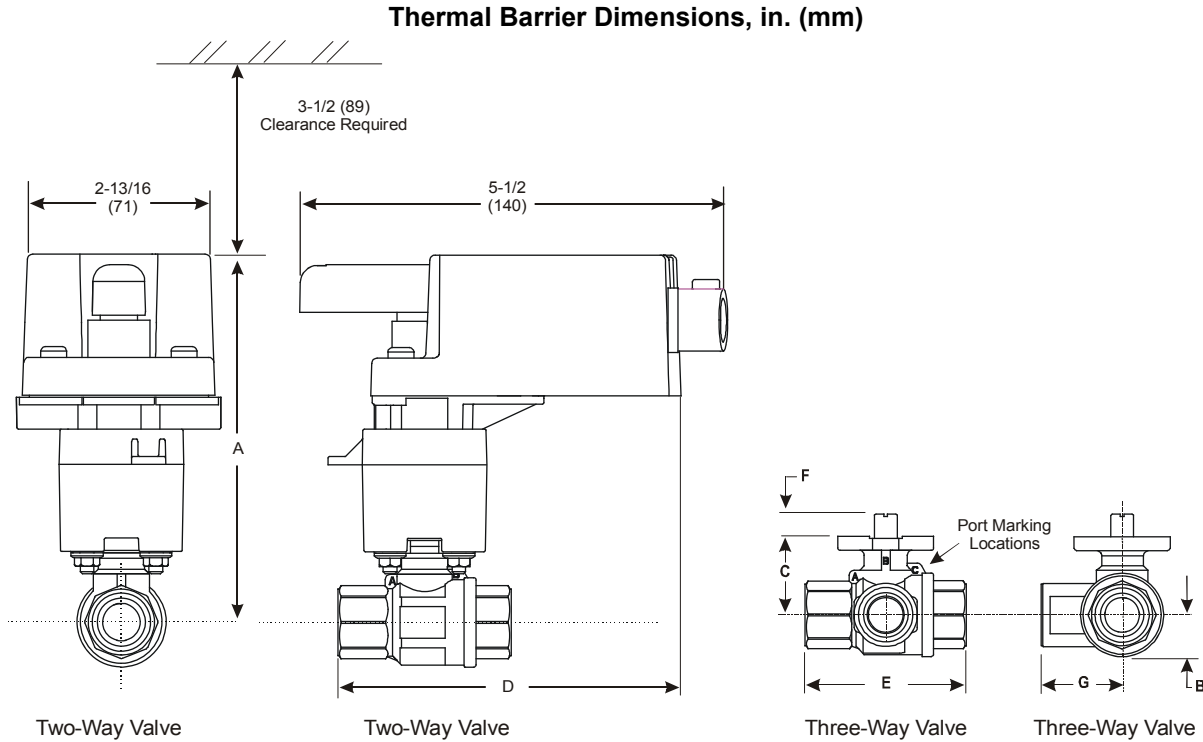

Figure 3: Field-Installed VA(M)24-35 Series Electric Actuator Dimensions with Optional ST2-HT
See Figure 3 and Table 3 for VA(M)24-35 Valve with linkage Actuator dimensions with optional ST2-HT Thermal Barrier installed.
1. Port A must always be connected to the coil (Figure 3).